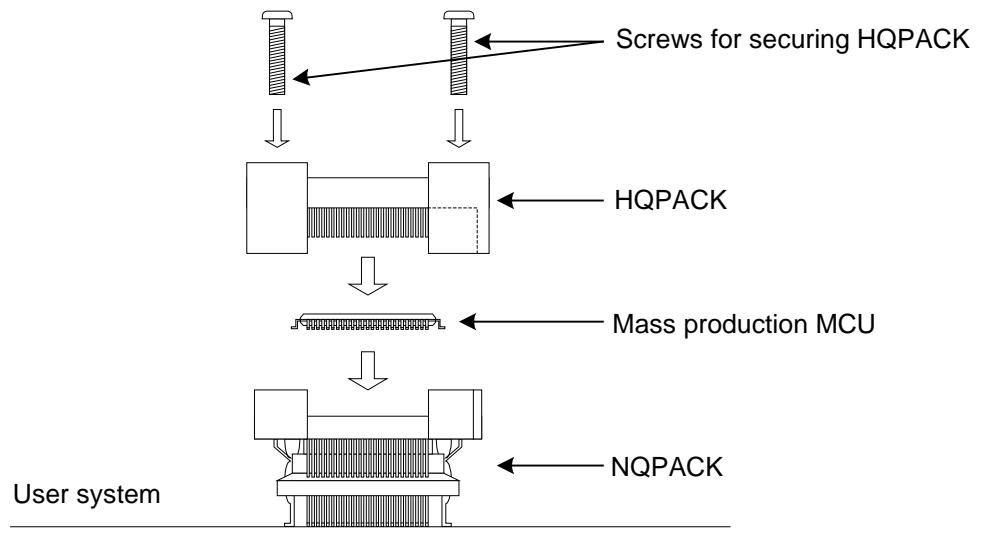

Figure 5 Mounting a mass production MCU
To mount a mass production MCU on the user system, use the supplied HQPACK (See Figure 5).
3. Insert each screw for securing HQPACK in each of the four drilled holes on the HQPACK,(See Figure 5).